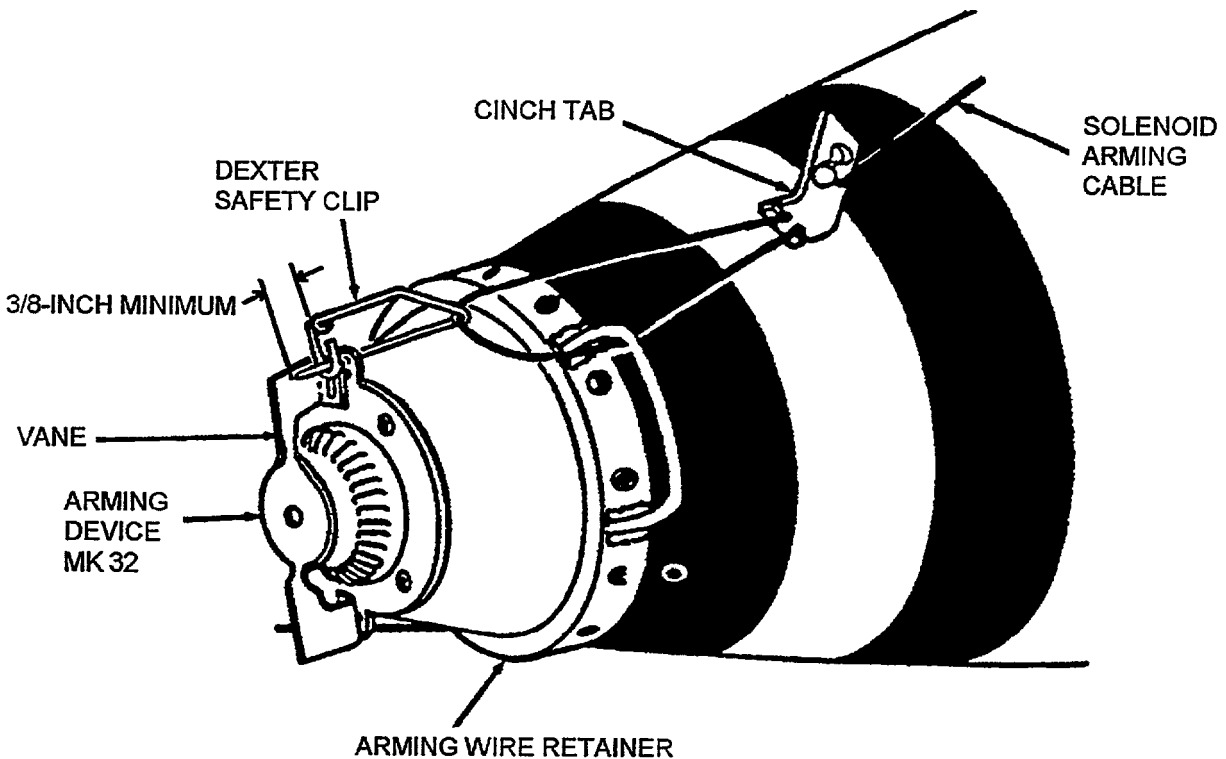

Figure 4-15D. Tail Section Mk 12 Solenoid Arming Cable Rigging
- (6) With notched end of cinch tab up and positioned as shown (Figure 4-15D, view B), pass the ball fitting through the larger of the two holes in tab.
- (7) Slip the arming cable into the slot connecting the large hole to the small hole in cinch tab. Secure the ball fitting in place by inserting its shank into the small hole of tab (Figure 4-15D, view B).
- (8) Slide the cinch tab aft on cable to remove all slack and to make cable taut; then rotate notched end of tab forward and insert both legs of cable into notches to secure rigging in place (Figure 4-15D, view C).
- (9) Secure mine to dolly or assembly stand.
- c. Rig the solenoid arming cable as follows (Figure 4-15D):
- (1) Pass the solenoid arming cable along right side of bomb body, as viewed from nose. Pass the ball fitting (swaged to end of cable) and safety clip (assembled on cable) through the bail on the arming wire retainer, as shown.
- (2) Open the safety pin and insert the straight leg into the outer hole in the retaining ring of the arming device and into the outside hole in the upper vane of the arming device; then close the pin, fastening it in place as shown.
- (3) Position the cinch tab, notched end up, a few inches behind the bail of the arming wire retainer. Return the ball fitting directly to the cinch tab and pass it through the larger of the two holes in the tab. Do not pass the ball fitting through the bail when returning it to the cinch tab.
- (4) Slip the arming cable into the slot connecting the large hole to the small hole in cinch tab. Secure the ball fitting in place by inserting its shank into the small hole of tab.